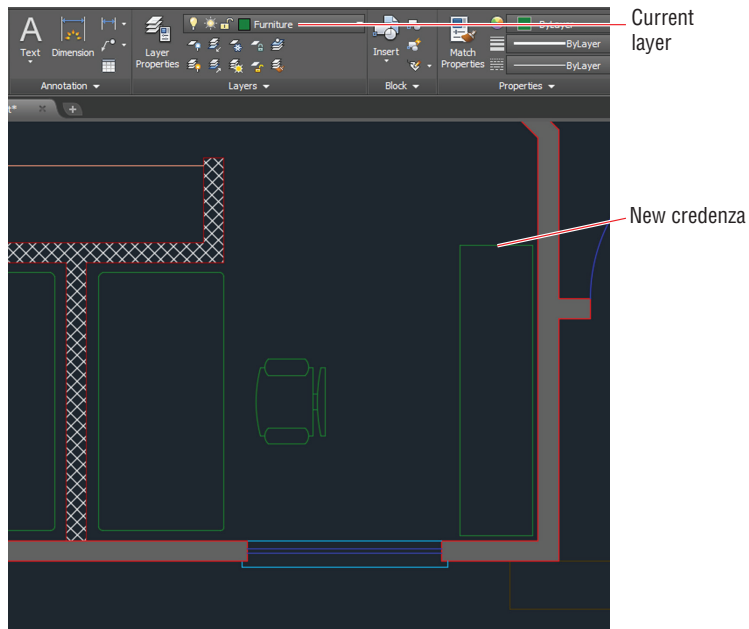

FIGURE 6.7 Drawing another credenza on the Furniture layer
6. Click the Rectangle tool on the Draw panel and click a point a few inches (without measuring) from the lower-right corner of the room. Type @-18,72 (or @-45,180 for metric) and press Enter to create a credenza in Marketing (see Figure 6.7).